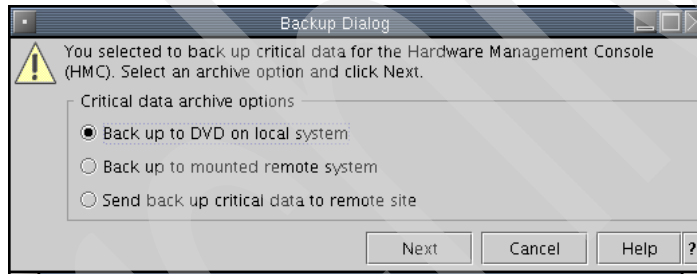

Figure 9-43 Backup dialog window
5. Select **Backup to DVD in Local System** to save your critical console data on the HMC DVD-RAM and click **Next** (Figure 9-43).